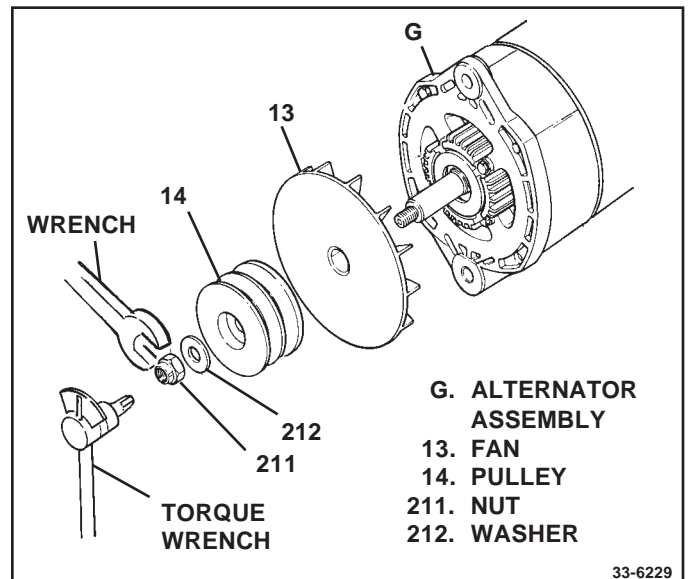

Figure 40. Installing Fan and Pulley
31. Fan (13) onto rotor shaft with vanes toward body of alternator. (See Fig. 40)